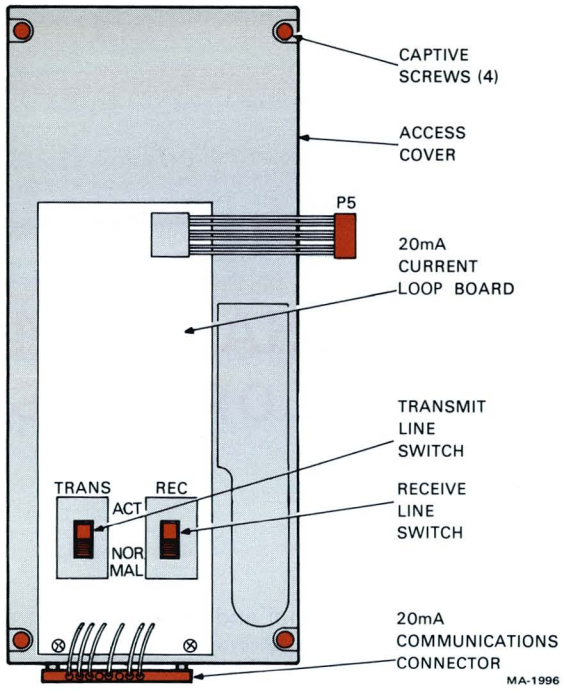

Figure 4-1 20 mA Current Loop Option
6. Set the TRANS switch to the NORMAL position (Figure 4-1). (If the terminal must provide current on the receive line set the switch to the ACT position.)
7. Set the REC switch to the NORMAL position (Figure 4-1). (If the terminal must provide current on the receive line set the switch to the ACT position.)